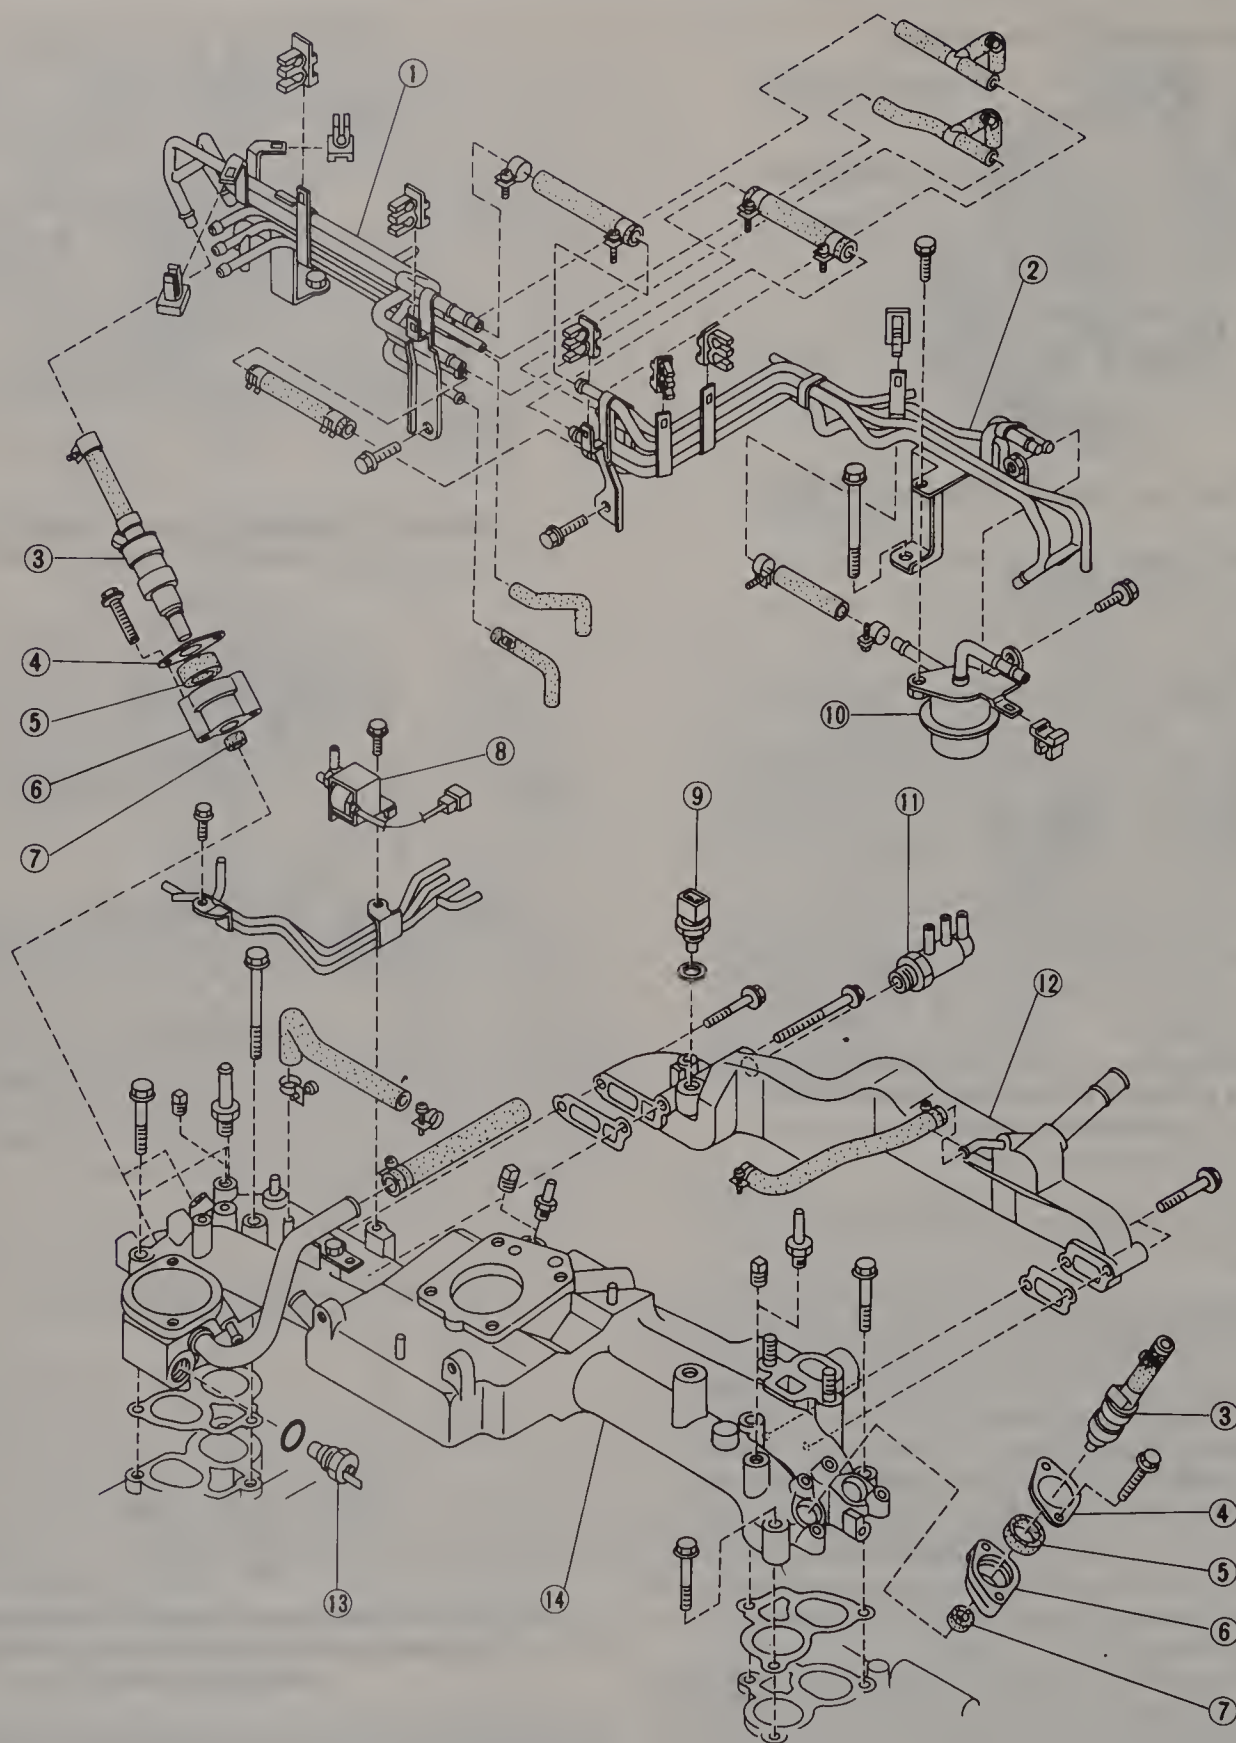

Fig. 13.50 MPFI system fuel line components — exploded view (Sec 9)
- 28 Remove the retaining bolts, loosen the hose clamps at the fuel injectors and the fuel line assembly junctions, then remove the right side fuel line assembly (Fig. 13.50).